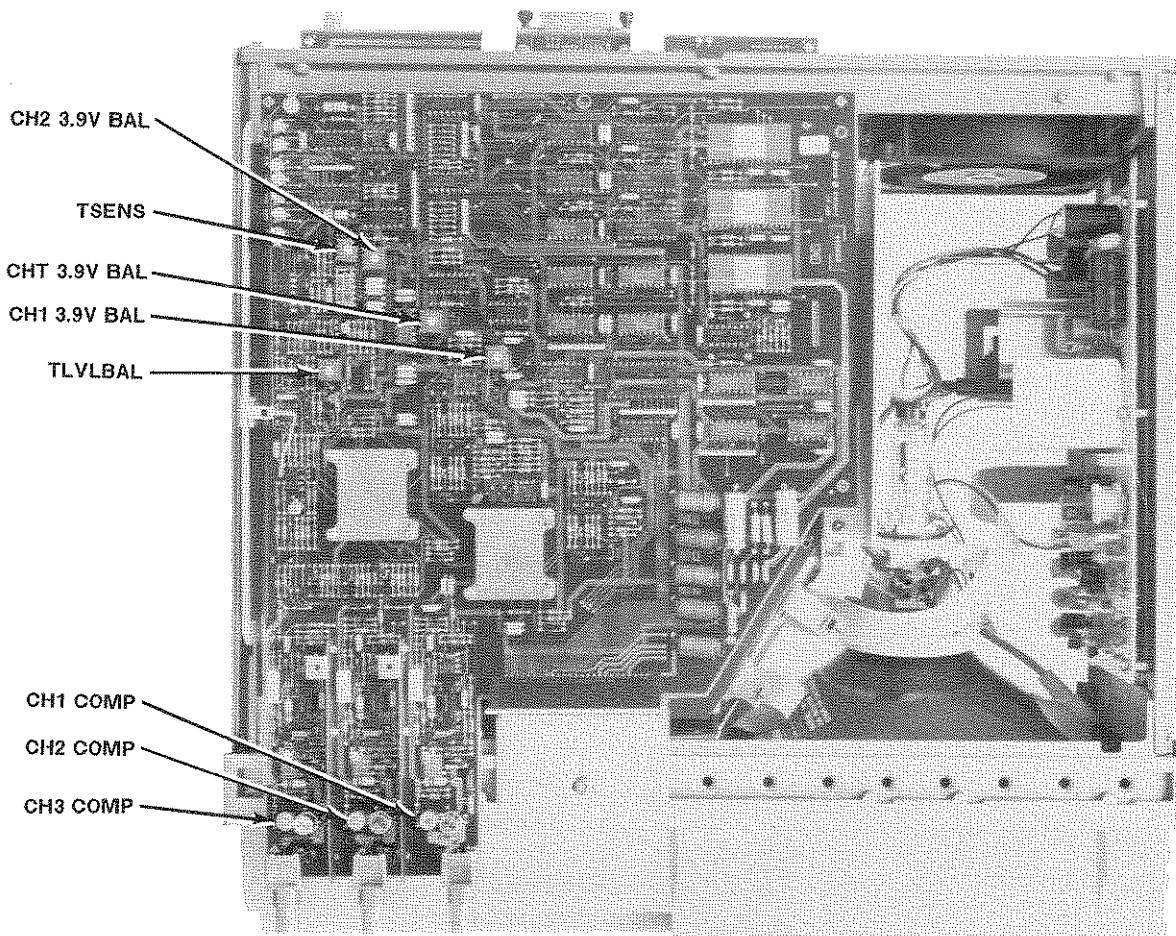
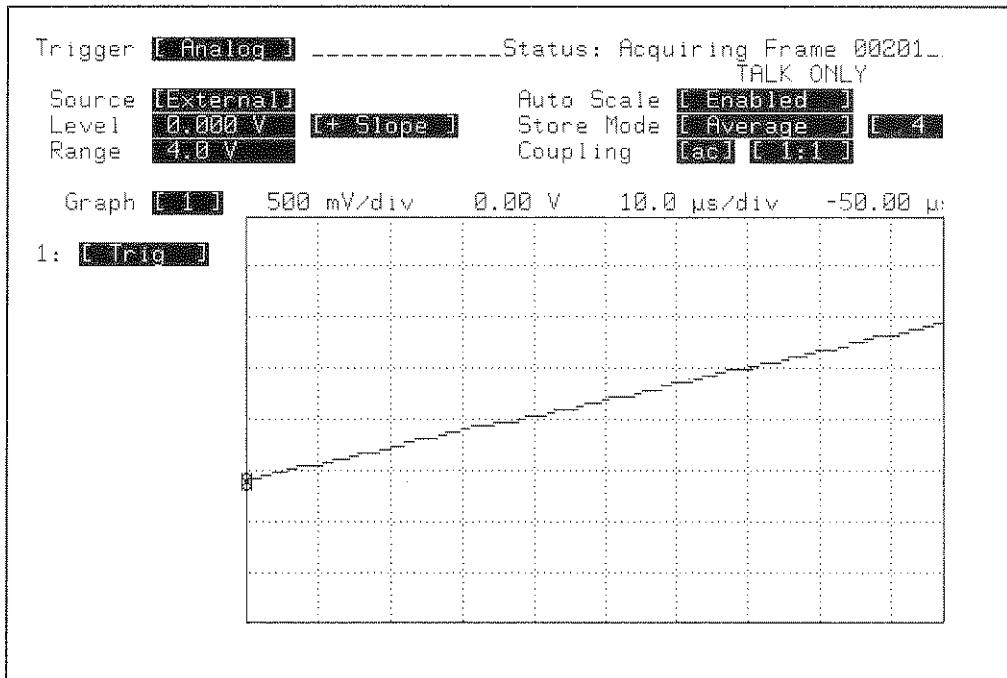

Figure 10-7. Analog Board Adjustment Locations.
Figure 10-10. Trigger Sensitivity Waveform
5. Display Chan 1 and note position trace on screen. Now set CHAN Range to 16 V and note trace position. Adjust CH1-3.9V BAL (figure 10-7) while switching between the 16-V range and the 40-V range. The voltage shift on the 40-V range should be equal and opposite to the voltage shift on the 16-V range when adjusted correctly. Do not offset more than ± 4 V.
8. Select SYSTEM Calibration menu. Execute ALL GAIN AND OFFSET (0). Wait until the gain and offset auto calibration has finished.
6. Connect the function generator output to 54200A/D INPUT 1 BNC and adjust the CH1 COMP adjustment for maximum square wave flatness using an insulated adjustment tool (figure 10-7).
4. The triggered waveform should appear similar to figure 10-10. If the waveform is not triggered, then turn TSEN (figure 10-7) completely clockwise. Now adjust TLVLBAL until a triggered waveform is displayed.
3. Display the TRIG channel. The triggered waveform should appear similar to figure 10-10.
4. While switching trigger slope between +Slope and -Slope, adjust TLVLBAL (figure 10-7) until the vertical trace shift is centered about the center horizontal graticule.